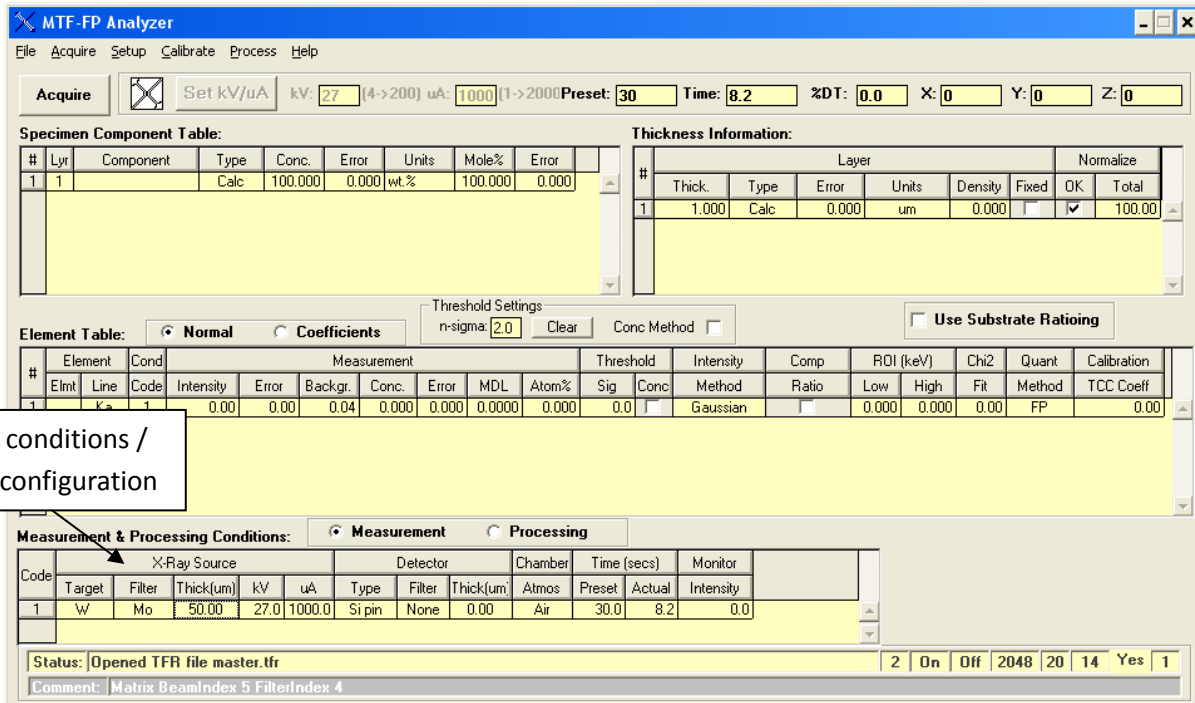

Figure 2
As noted above, it is not within the scope of this tutorial to go into the details of setting up specific spectrometer configurations. However, we will briefly review the excitation conditions used for the example presented here. Referring to the Measurement Conditions of the New XRS-FP Analyzer view on your display and presented below, Figure 2. The spectrometer is configured with a tungsten (W) target tube. A primary filter is used to remove the W L emissions from acquired spectra that would otherwise interfere with application analyte emissions, Cu from the Bronze. An accelerating potential is selected that is sufficient to fluoresce the desired x-ray emissions of the analytes. In this case, dictated by the Sn emissions – K critical potential is 29.190 keV, so, 47 kV tube potential was selected (~1.5 -2 X) the critical potential, if possible. This is also sufficient energy to fluoresce the Cu analyte line. A 240 µA tube current was selected to provide count rates that would provide efficient analysis. This can be judged by %DT (dead time) – typically 45% ±10%.